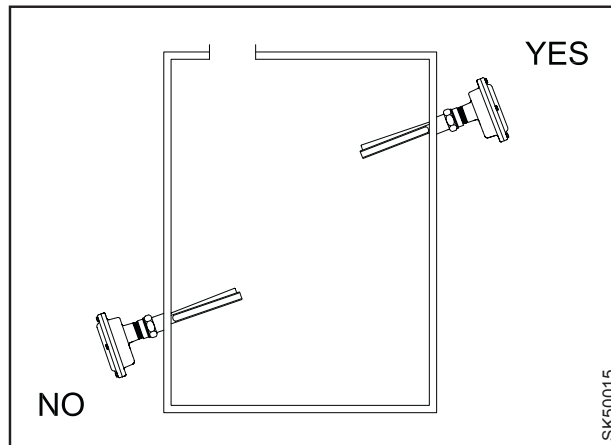

Figure 3. Mounting Dimensions
- The fork assembly must be horizontal or pointing downward. DO NOT mount the fork pointing upward. (See Figure 3)